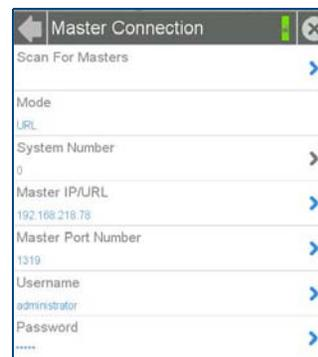

FIG. 4 Master Connection page
- Select **Master Connection** to open the *Master Connection* page (FIG. 4).